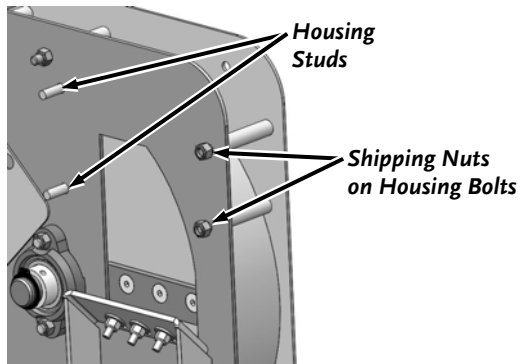

Figure 4
1. Using 1/2" Wrenches, remove the two shipping nuts, but leave the Housing Bolts loosely in place (Figure 4).
2. Lift the Hopper onto the Wear Plate Support and loosely attach a Washer and Locknut to each of the two Housing Studs (Figures 4 and 5).